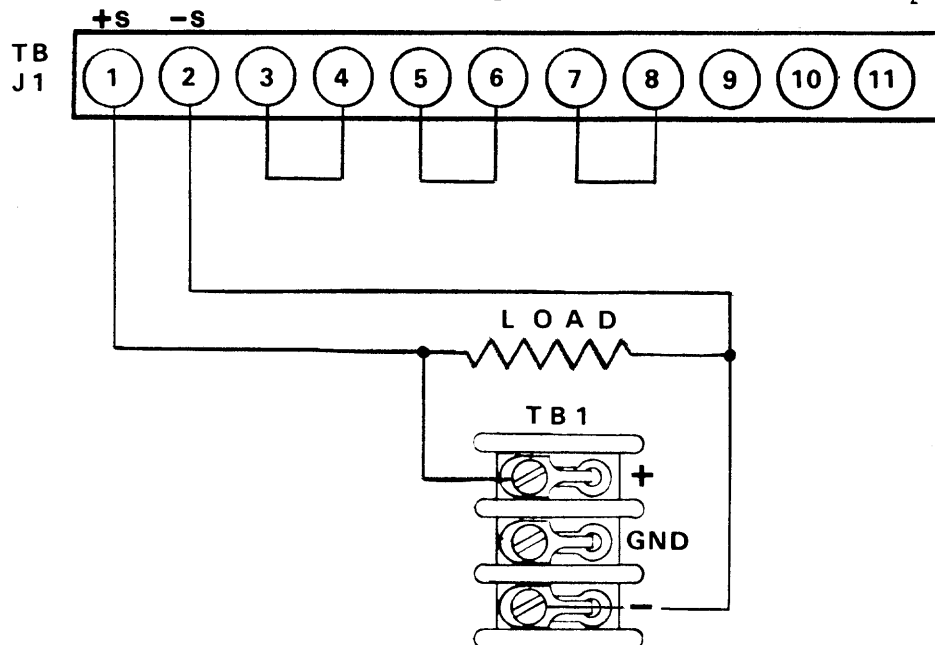

Figure 3-2
3.2.2 Remote Sensing (Figure 3-2)